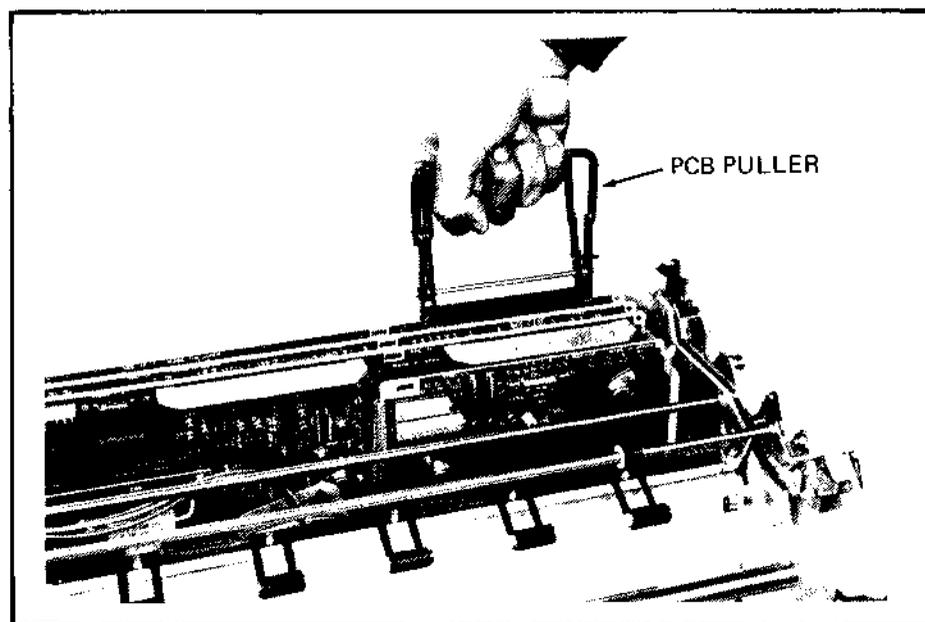

Figure 4-5 PCB Removal
- g. Pull out the PCB using extraction tool number 19-22833 as shown in Figure 4-5.